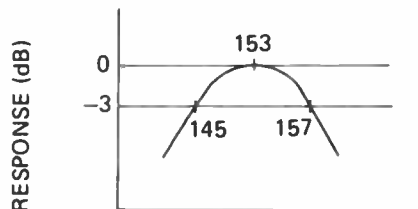

Figure 5
Step 2 : Adjust T1, T2, T3 and T5 of RF Section for maximum output and best curve symmetry as shown in Figure 5.